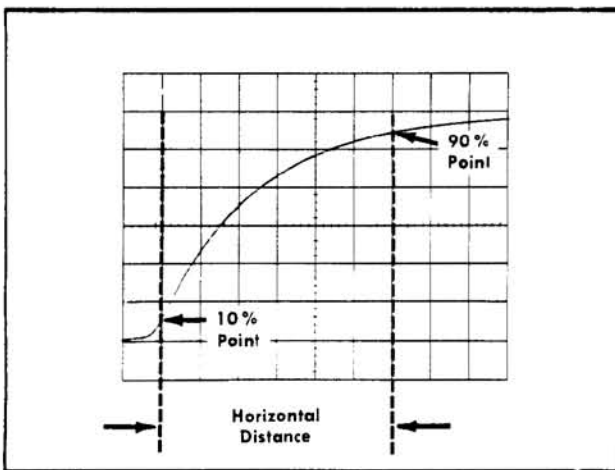

Fig. 2-13. Measuring risetime.
6. Adjust the horizontal POSITION control to move the 10% point of the waveform to the first graticule line. For example with a six division display, the 10% point would be 0.6 division up from the start of the rising portion (see Fig. 2-13).
Example. As an example of this method of measurement, assume that the distance between the 10% and 90% points is 6 divisions (see Fig. 2-13) and the TIME/DIV switch is set to 1 μSEC with the magnifier on.